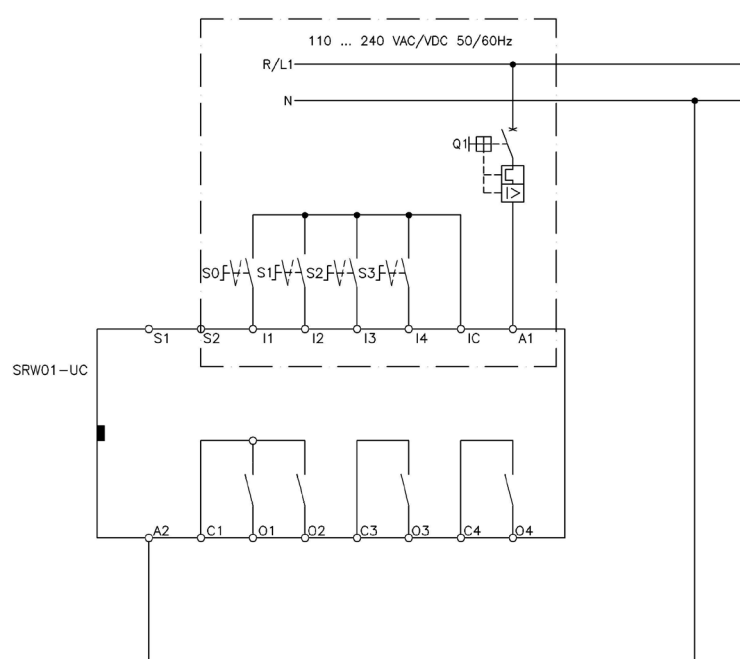

Figure 5.21 - Connection scheme for the PLC Operation Mode using digital inputs at 24 Vdc
The scheme on figure 5.21 shows an example of the use of the Control Unit (UC) on the PLC operation mode with drive through digital inputs at 24 Vdc.